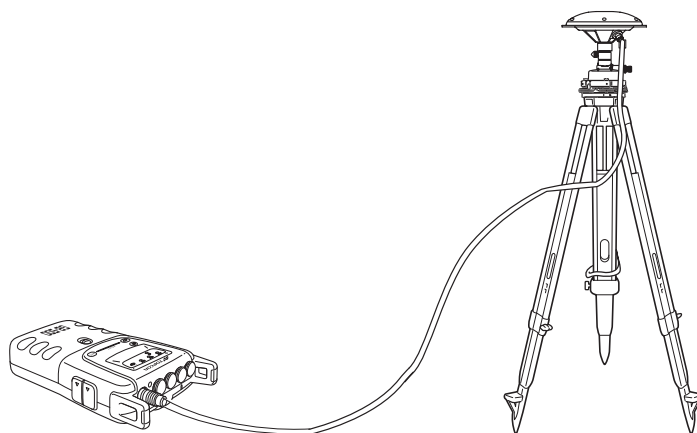

Figure 2-12. Connect GB-500 and Antenna
1. Connect the cable to the GB-500's antenna port (Figure 2-12).
2. Connect the cable to the PG-A1's antenna port (Figure 2-12).